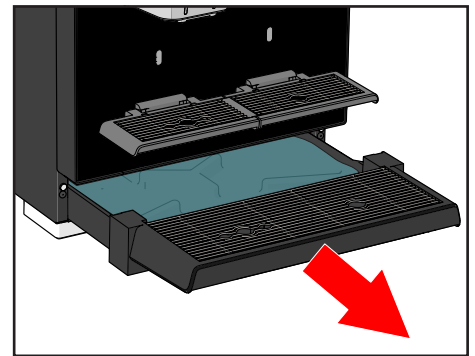

Figure 30.
1. Carefully remove the drip tray from the machine (see Figure 30).
14. Carefully remove the drip tray from the machine (see Figure 30).